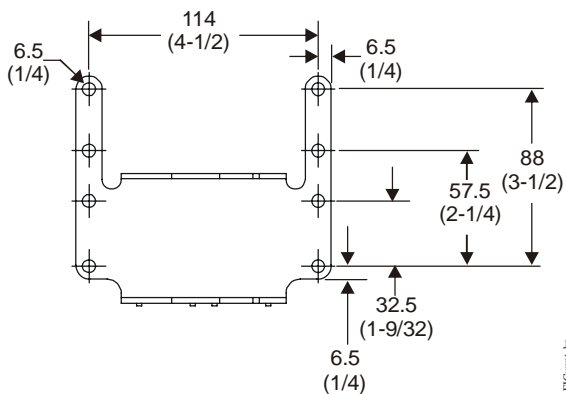

Figure 4: Hole Patterns in Mounting Brackets with Dimensions, mm (in.)
See Figure 4 for the hole mounting pattern of the mounting bracket. The hole pattern locates the actuator crankarm assembly with respect to the drive blade, jackshaft, or crankarm to be driven.
2. Use a center punch to mark the hole locations for the bracket in the duct or damper frame. See Figure 4.